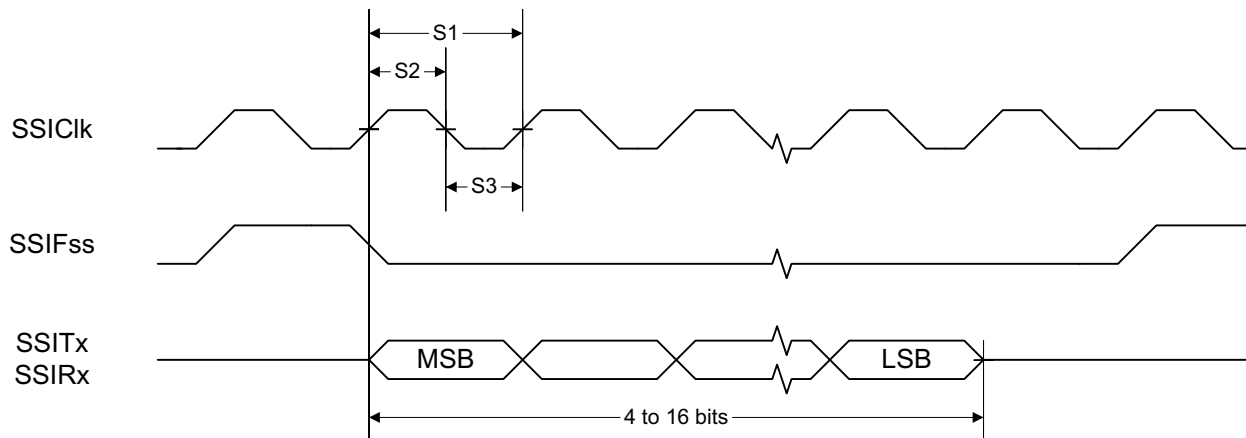
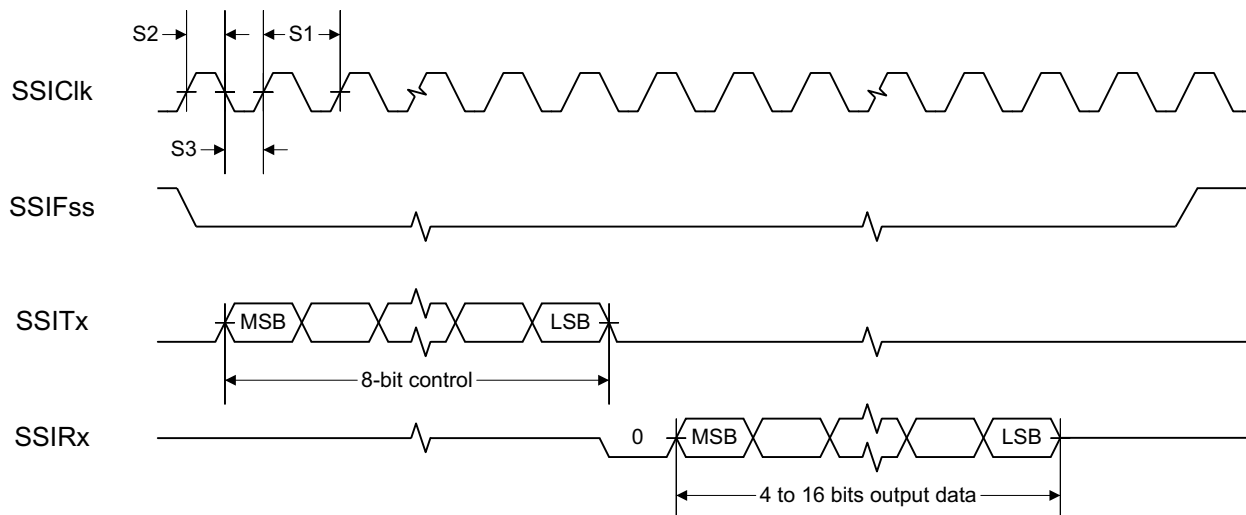
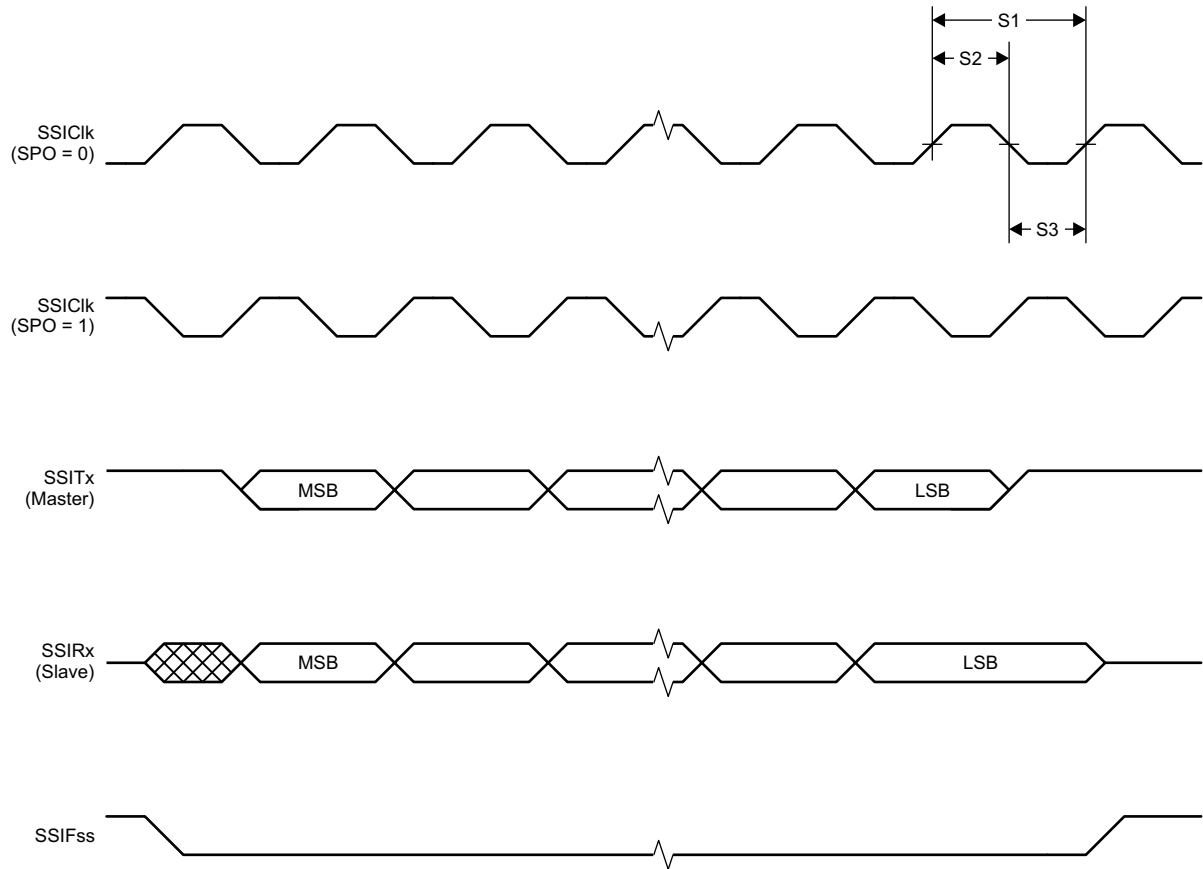

图 5-1. SSI Timing for TI Frame Format (FRF = 01), Single Transfer Timing Measurement
图 5-2. SSI Timing for MICROWIRE Frame Format (FRF = 10), Single Transfer
图 5-3. SSI Timing for SPI Frame Format (FRF = 00), With SPH = 1
(1) When using the TI-provided Power driver, the SSI system clock is always 48 MHz.
(2) Refer to SSI timing diagrams 图 5-1, 图 5-2, and 图 5-3.